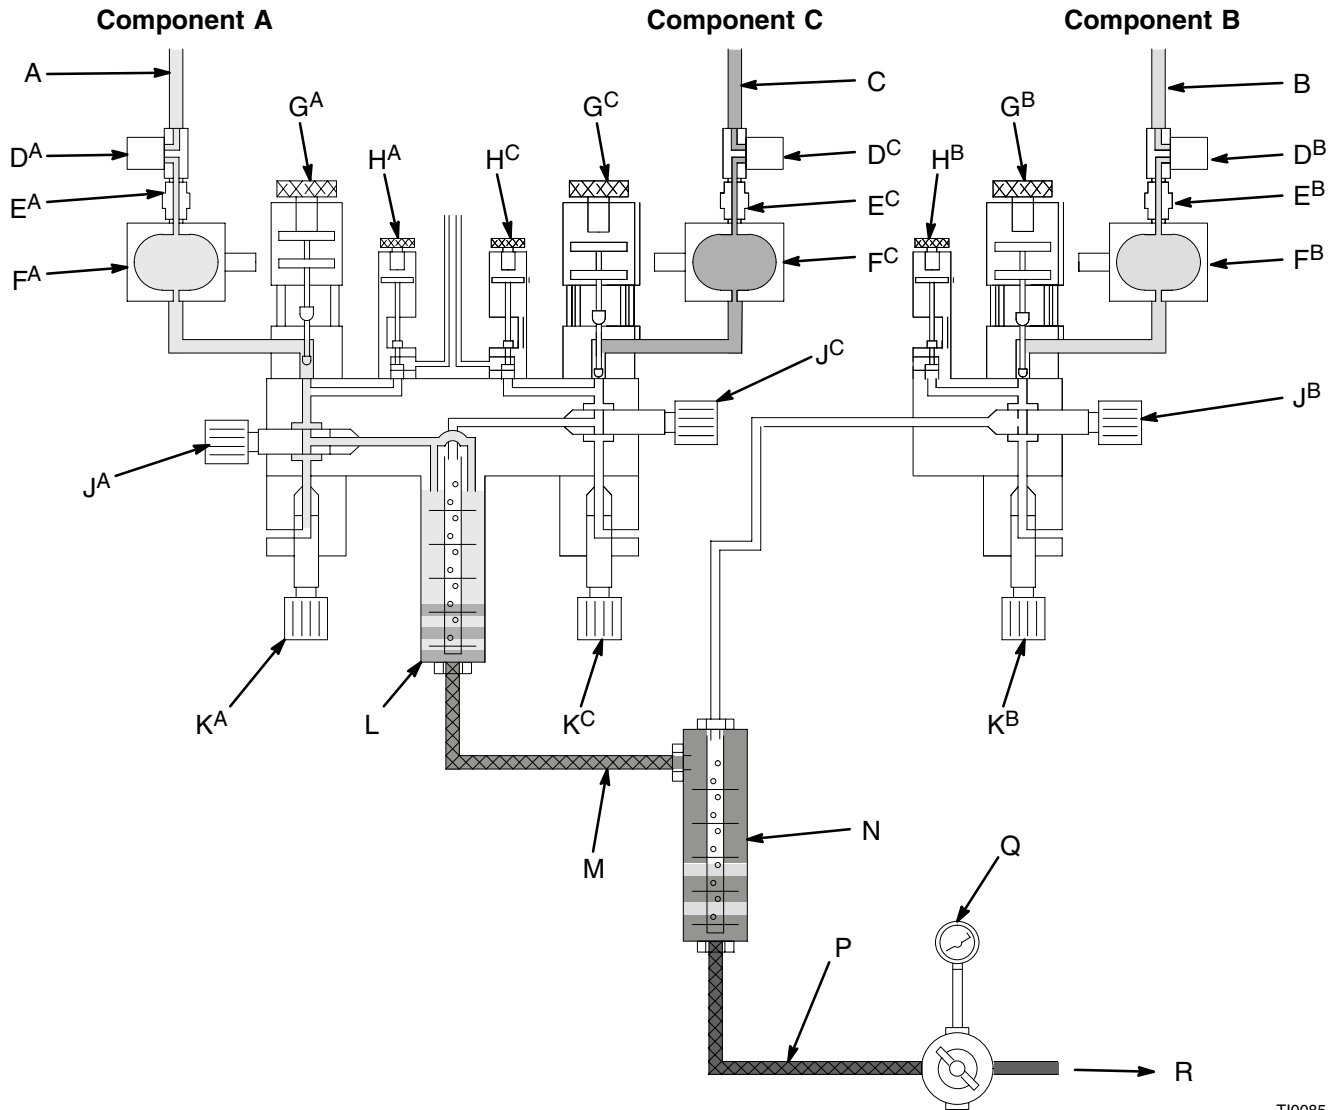

Fig. 3
- First, the Component A (resin) dispense valve opens, and the fluid begins to flow into the first integrator chamber. When the correct quantity has been dispensed (based on the calculated target value), the component A dispense valve closes. See Fig. 3.
KEY for Fig. 3